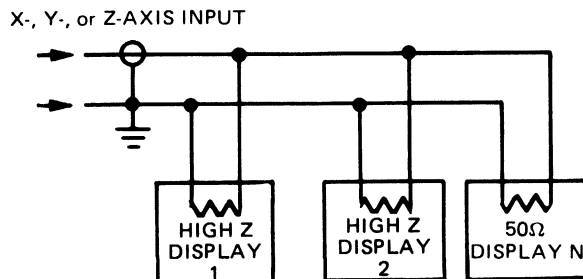

Figure 3-2. Input Termination Impedance of Displays Connected in Parallel
**3-14.** Ringing is one possible undesirable side effect of improperly terminated inputs. For instance, an abrupt transition from blanked to unblanked in an improperly terminated Z-axis input line may cause ringing which would appear as intensity fluctuations in the display. For minimum induced crosstalk and ringing, displays connected in parallel should be connected in a "daisy-chain" configuration with only the last display in the chain terminated in 50 ohms (figure 3-2).